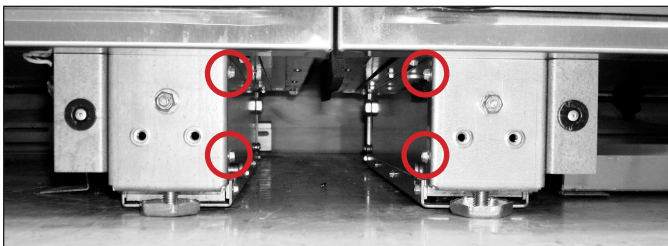

FIG. 17. Return the magnet bracket screws to their original locations
10. With the provided hardware, install the joining bracket across the interior legs. See figs. 17 and 18.